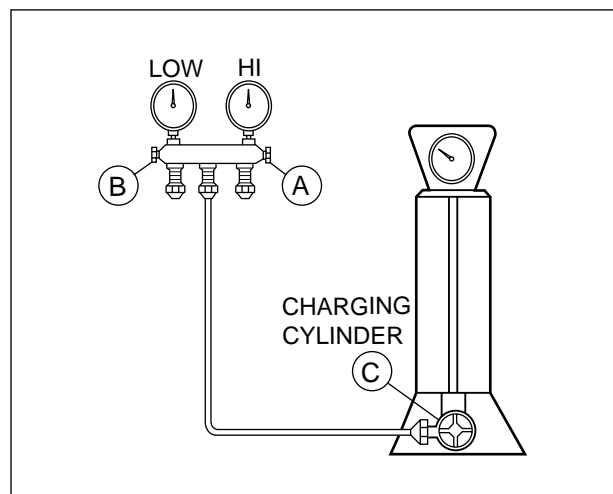

Figure 18B-Charging
- 4) Remove the hose from the vacuum pump and place it on the charging cylinder. See Fig. 18B. Open valve C.
- 2) Connect the charging cylinder as shown in Fig. 18B. With valve C open, discharge the hose at the manifold connection.